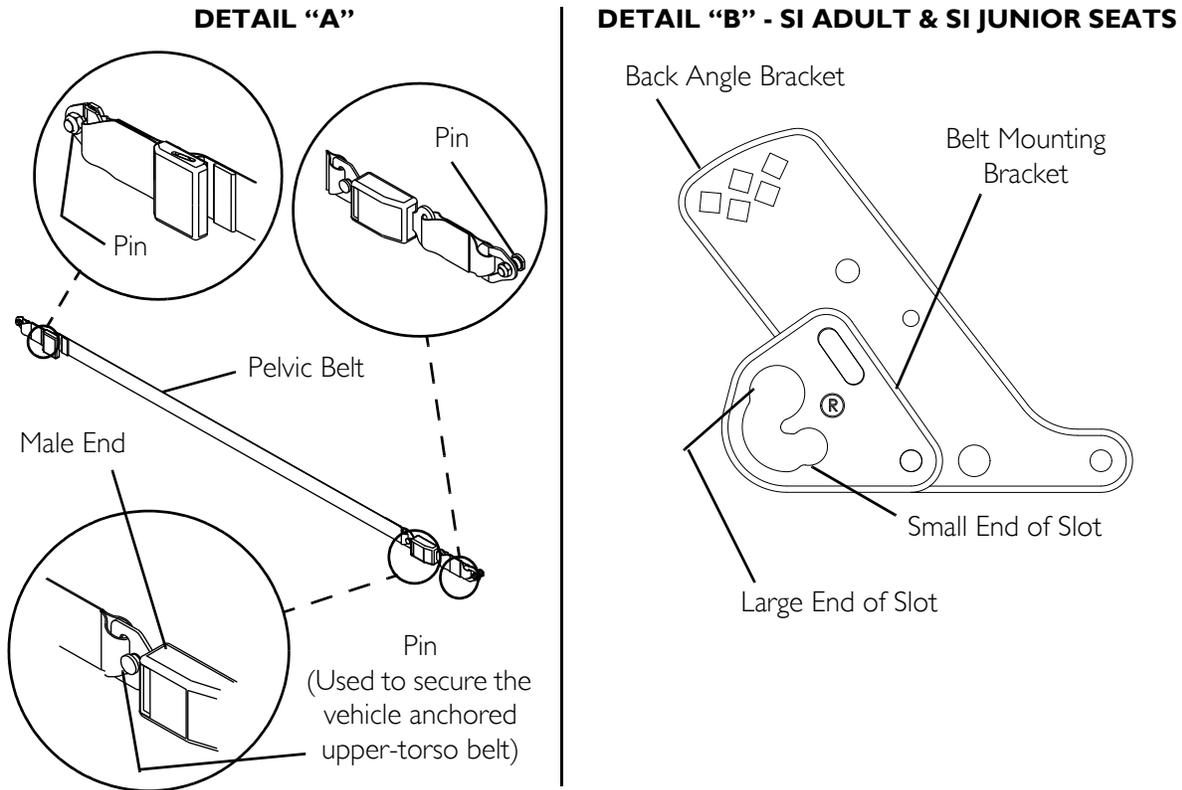

FIGURE 11.2 Wheelchair-Anchored Belts
NOTE: For this procedure, refer to FIGURE 11.2 on page 89.
1. Install the pelvic belt pin (Detail "A" of FIGURE 11.2) into the large end of the slot in the belt mounting bracket (Detail "B" or Detail "C"). Rotate downward and forward until it snaps into place into the small end of the slot.
NOTE: Note the position of the male end of the belt when installing the pelvic belt onto the belt mounting brackets. The male end of the pelvic belt (Detail "A" of FIGURE 11.2) has a pin which is used to secure the vehicle-anchored upper-torso belt.